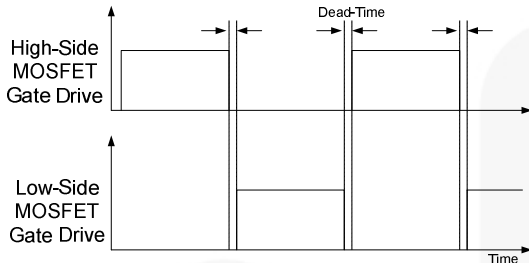

Figure 15. MOSFETs Gate Drive Signal
1. Basic Operation. FLS-XS series is designed to drive high-side and low-side MOSFETs complementarily with 50% duty cycle. A fixed dead time of 350ns is introduced between consecutive transitions, as shown in Figure 15.